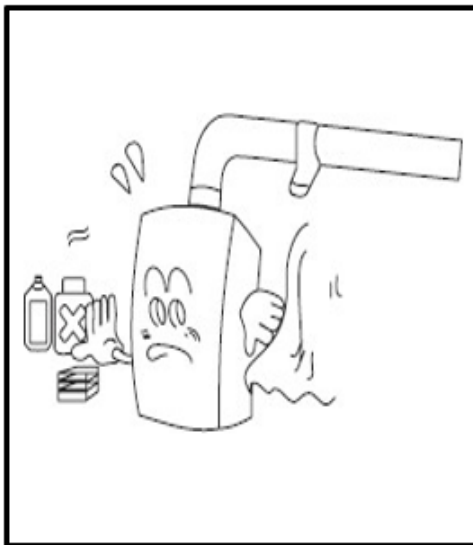

Fig. 5
- Please don't install the heater in places where special chemicals are used, such as the laundries or factories etc., otherwise it may cause rusting, shorten the lifetime of the heater, or prevent normal working. (Fig. 5)